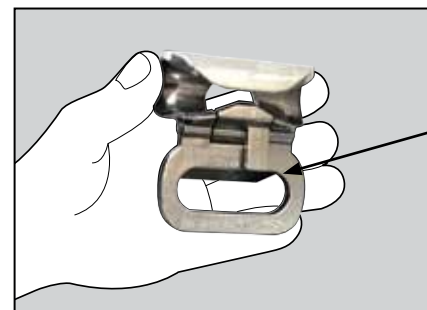

Figure 27 – KeeLine® II Traveller
- ❑ If using the KeeLine® II Traveller, it has been fitted to the rope and the push button been engaged so the traveller cannot be removed accidentally. See Figure 27.